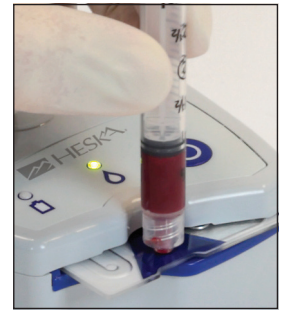

Figure 2
- Using slight downward pressure, secure the syringe luer's tip into the center recess of the sample entry port of the Test Card. Rotate the syringe $\frac{1}{4}$ turn to ensure a good seal (Figure 2).